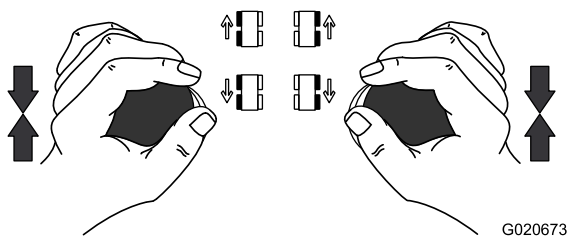

Figure 37
- To **stop** the movement or turning of the machine, return the levers to the neutral (default) position (Figure 37).